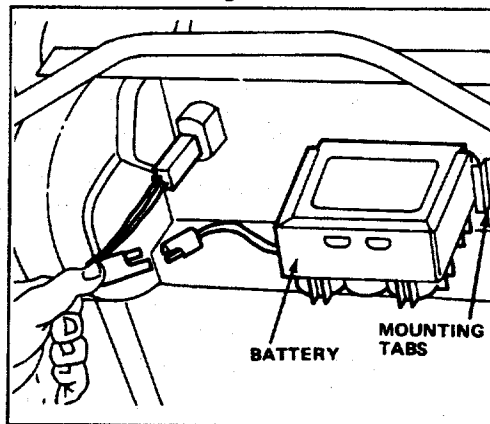

Figure 4
7. Charge battery (Model 26624)—Refer to Charging Battery, page 15. Slide battery, decal side up, between mounting tabs on back of control panel and connect wires (Fig. 4). Insert key into switch when ready to start engine.